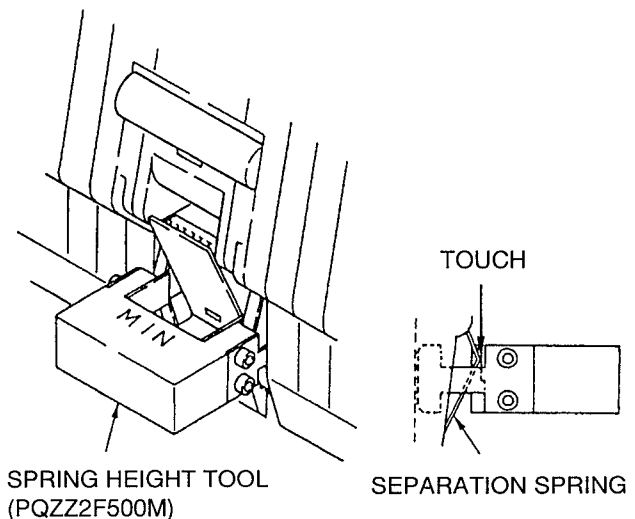

Fig. 2
3. Check the lowest level of the separation spring with the opposite side of the spring height tool. Please make sure that the separation spring touches the tool during this operation. (Both right and left) (See Fig. 2).